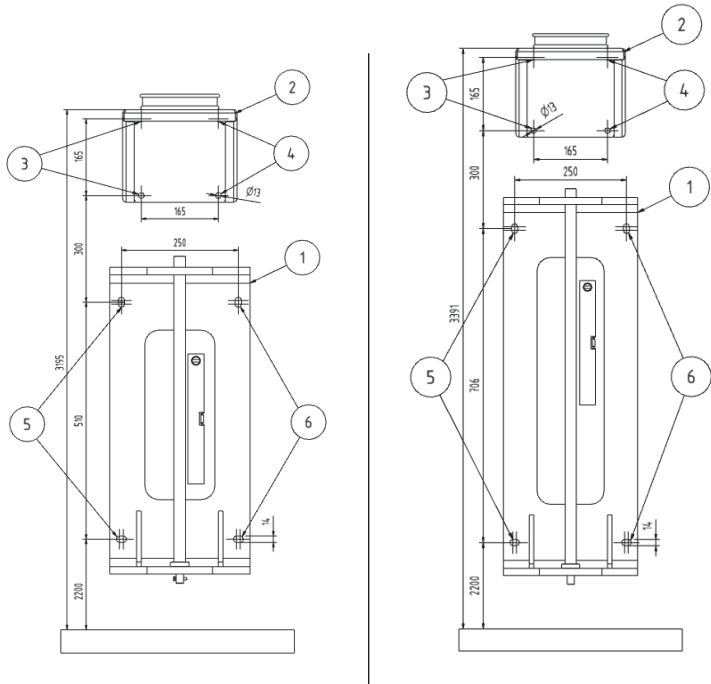

Fig. 2-2
- Attach the wall console (1) for the hinged cantilever and the wall console with exhaust port (2) with appropriate screws and plugs on a load-bearing surface.
- Depending on the scope of delivery, select either the large or small wall console (1). (See split Fig. 2-2)